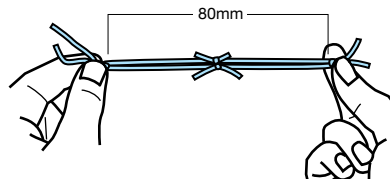

Figure 4: Stretching the mesh to measure between the knots.
- B.** Pull the mesh closed so two knots meet in the middle (Figure 4). Measure between the two knots at either end of the mesh to the closest mm.